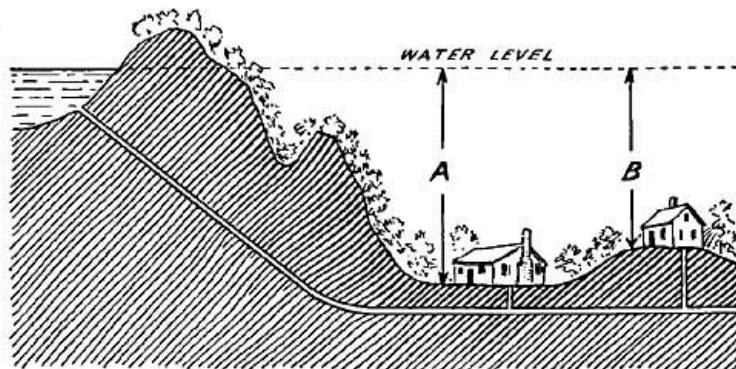

FIG. 148.—The elevated mountain lake serves as a source of water.
Figure 148 illustrates in a simple way the manner in which a mountain lake may serve to supply the inhabitants of a valley. The city of Denver, for example, is surrounded by mountains abounding in streams of pure, clear water; pipes convey the water from these heights to the city, and thus a cheap and adequate flow is obtained. Such a system is known as the gravity system. The nearer and steeper the elevation, the greater the force with which the water flows through the valley pipes, and hence the stronger the discharge from the faucets.
**196. Why the Water Supply is not uniform in All Parts of the City.** In the preceding Section, we saw that the flow from a faucet depends upon the height of the reserve water above the tap. Houses on a level with the main supply pipes (Figs. 148 and 151) have a strong flow because the water is under the pressure of a column *A*; houses situated on elevation *B* have less flow, because the water is under the pressure of a shorter column *B*; and houses at a considerable elevation *C* have a less rapid flow corresponding to the diminished depth (*C*).